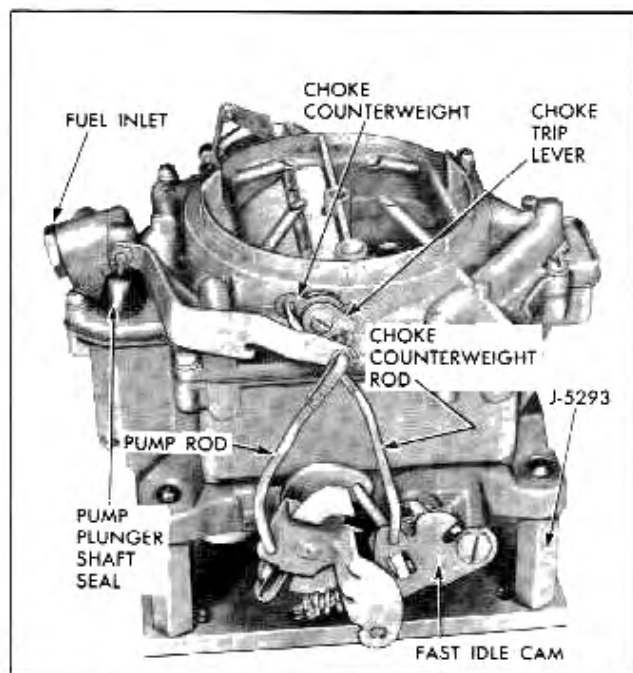

Fig. 6B-37 Rochester 4GC Carburetor
1. Mount carburetor on holding fixture J-5923. Remove gasoline inlet fitting, screen and gasket assembly (Fig. 6B-37).
2. Remove clip from upper end of pump rod (Fig. 6B-37). It is not necessary to remove rod at lower end.